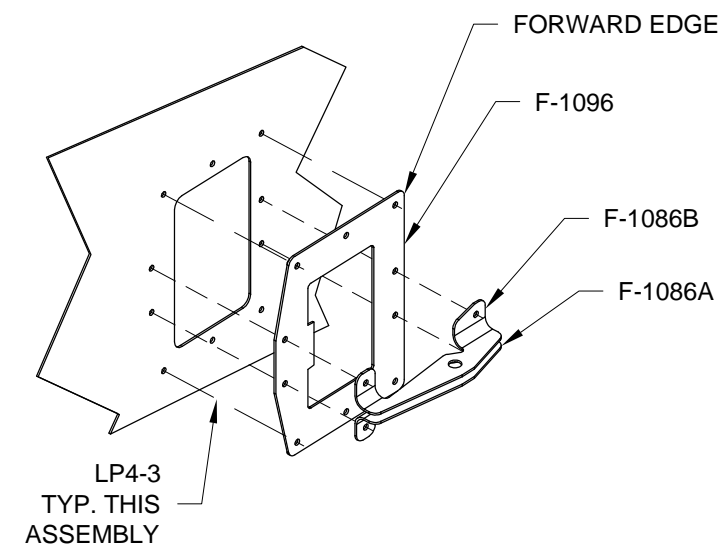

FIGURE 4: ASSEMBLING THE VENT DOUBLER AND BRACKETS
Step 5: Cleco the F-1086A and F-1086B Vent Brackets and the F-1096 Vent Doubler to the left F-1270 Fuselage Side Skin as shown in Figure 4. Final-Drill #30 the holes common between these parts. Repeat this step for the right side of the aircraft.
Step 7: Rivet the F-1096 Vent Doubler and F-1086A and F-1086B Vent Brackets to the F-1270 Fuselage Side Skin as shown in Figure 4. Repeat this step for the right side of the aircraft.